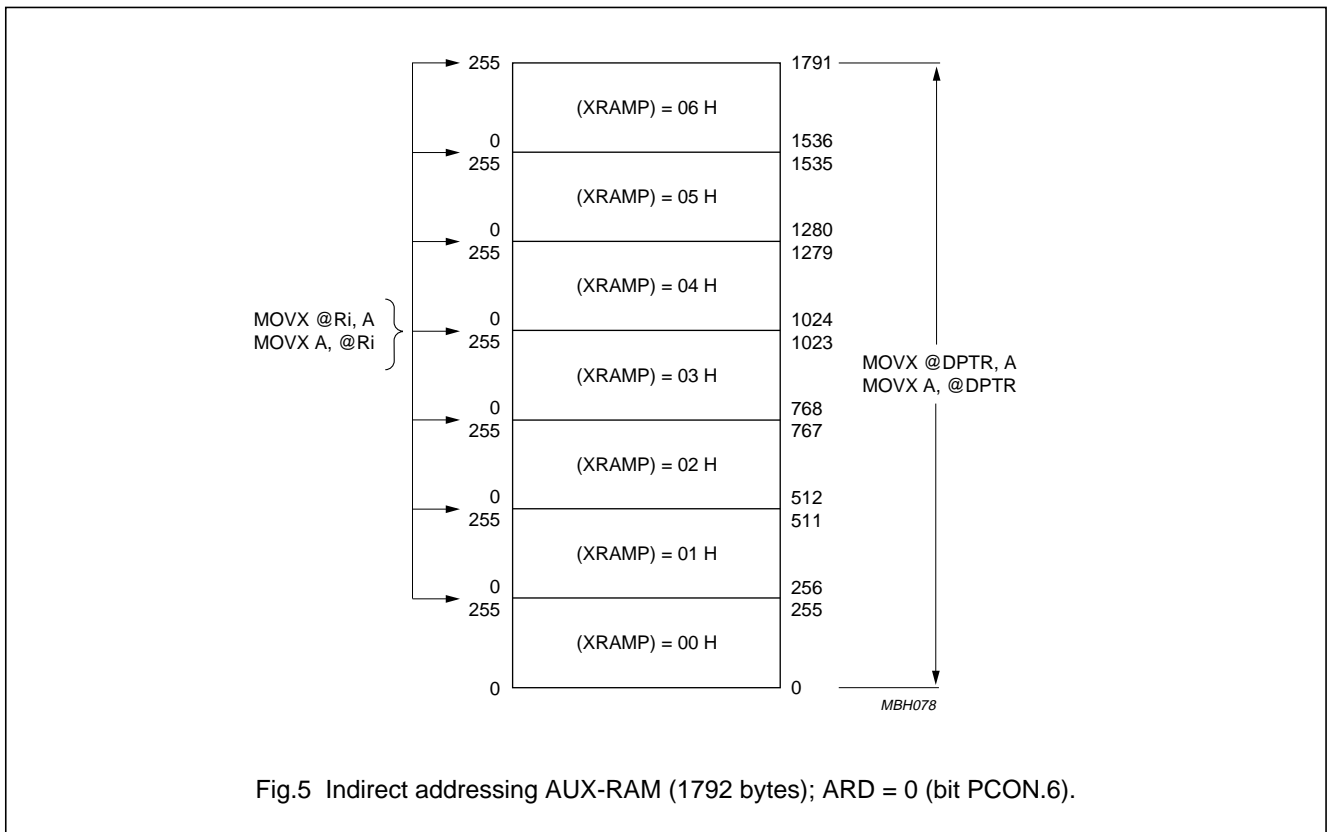

Fig.5 Indirect addressing AUX-RAM (1792 bytes); ARD = 0 (bit PCON.6).
- AUX-RAM 0 to 1791 is indirectly addressable via page register (XRAMP) and MOVX-Ri instructions, unless it is disabled by setting ARD = 1 (see Fig.5). When executing from internal Program Memory, an access to AUX-RAM 0 to 1791 will not affect the ports P0, P2, P3.6 and P3.7.